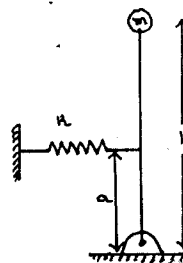

Fig. Q8 (b)
- b. Find the natural frequency of the system shown in Fig. Q8 (b), by using Newtons method and Energy method. (10 Marks)